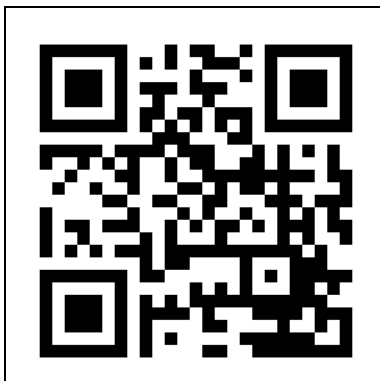

Figure 18
1. Open the Eurom Smart App manual with the QR code (Figure 18) or go to [www.eurom.nl/nl/manuals](http://www.eurom.nl/nl/manuals).